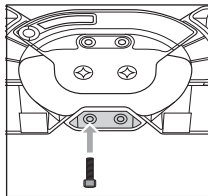

Fig. 3
- ◆ Screw one of the screws **9** tightly into the retaining nut **10** using the hex key **11** (see fig. 3).